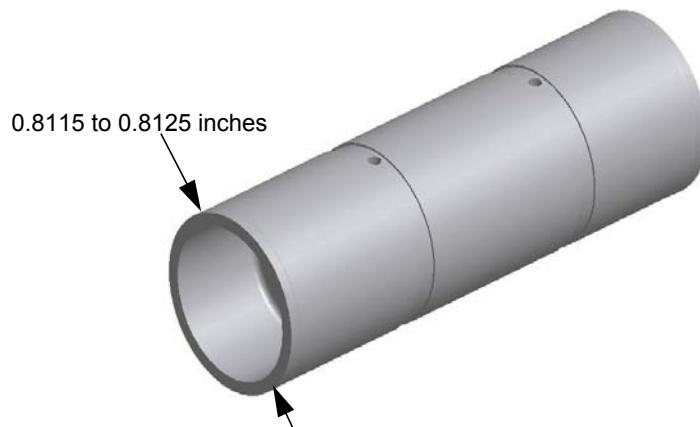

Figure 6-17
1. Clean **liquid displacers** (Figure 6-17) and use micrometer to measure outside diameters of each displacer end.